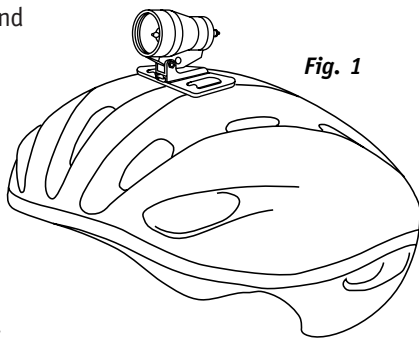

Fig. 1
1. Place the light, mounted in its base, approximately a third of the way from the front of your helmet (see Figure 1).